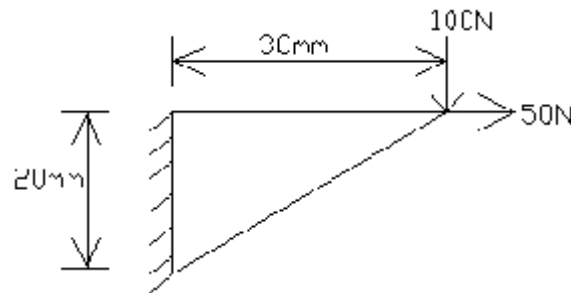

Fig. 4
5. For a triangular plate shown in the figure 4, determine the deflection at the point of load using one triangular element. Thickness is 10mm, $E = 70 \times 10^3$ MPa, $\mu = 0.3$